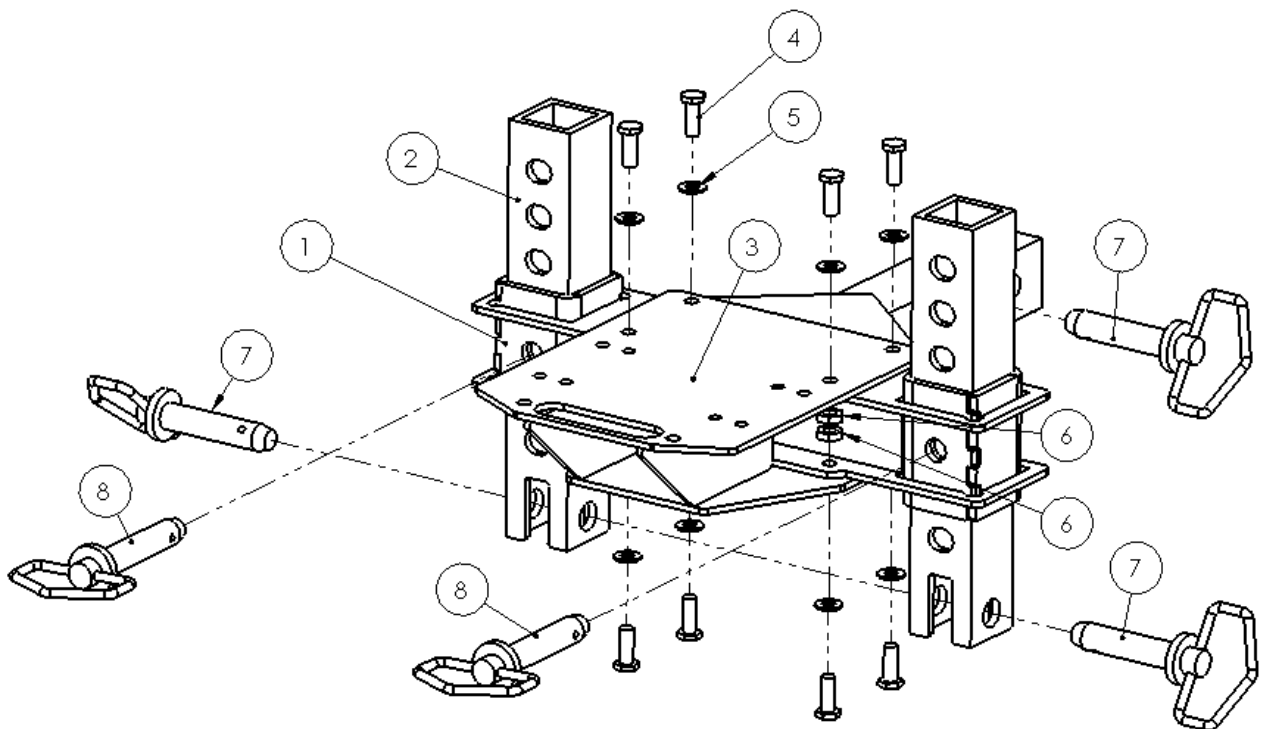

Figure 1
Kit Content: Please refer to Figure 1
2. Insert the (2) MA11770 2" Receiver Plow Mount Tabs as shown in Figure 1. Secure the tabs with the remaining (2) short Quick Release Pins. The height of the Mounting Tabs should be equal and the plow pushtube system should ride parallel to the ground for optimal plowing conditions.
3. A winch is required to raise and lower your plow system, this can be done using a winch located in the OEM stock location or in some situations a winch must be mounted to the 2" Receiver Plow Mount via the MA11770 Winch Mount Attachment Bracket. Align the Winch Mount Bracket to the 2" Receiver Plow Mount as shown in Figure 1 and secure it using the (8) 3/8" x 1" Hex Bolts, Washers and Nuts.